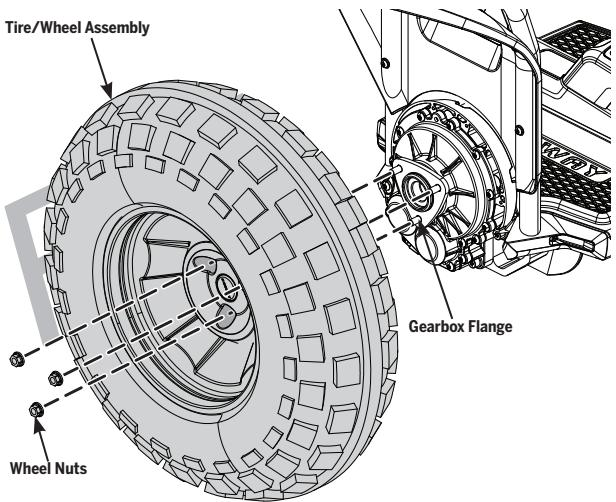

Figure 71: Remove/Install the x2 SE Tire/Wheel Assembly
3. Using a 13 mm socket wrench, remove the three wheel nuts and discard (see **Figure 71**).
3. Place the Tire/Wheel assembly onto the gearbox flange (see **Figure 71**).